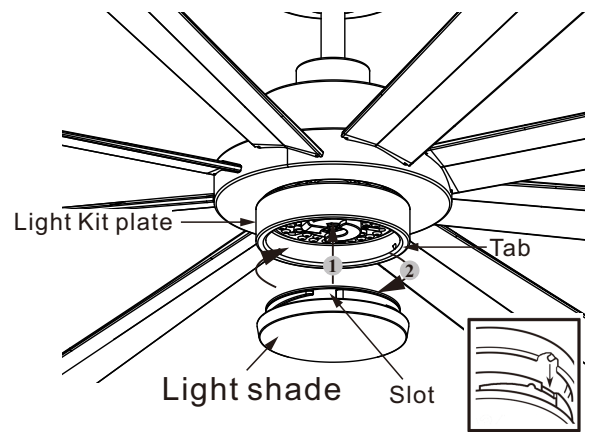

Figure 20a
Step 4. Instal light shade or bottom cap up against light kit plate and secure it to the fan by turning the light shade clockwise until snug. (DO NOT OVERTIGHTEN). (Fig.20a/b)